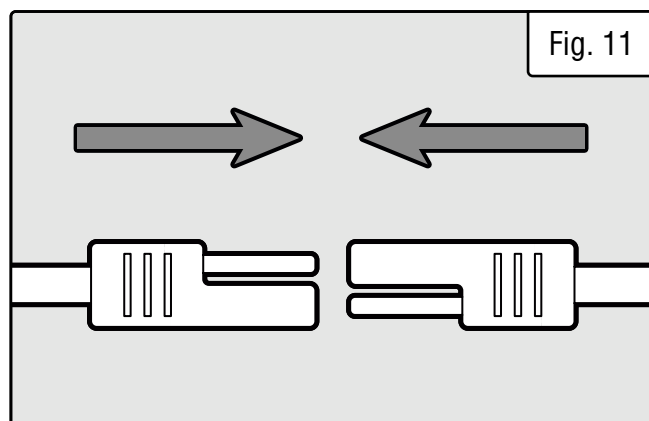

Fig. 11
2. Connect the two ends of the quick-connector on the battery (Fig. 11) to the ends of the quick-connector on the starter motor.